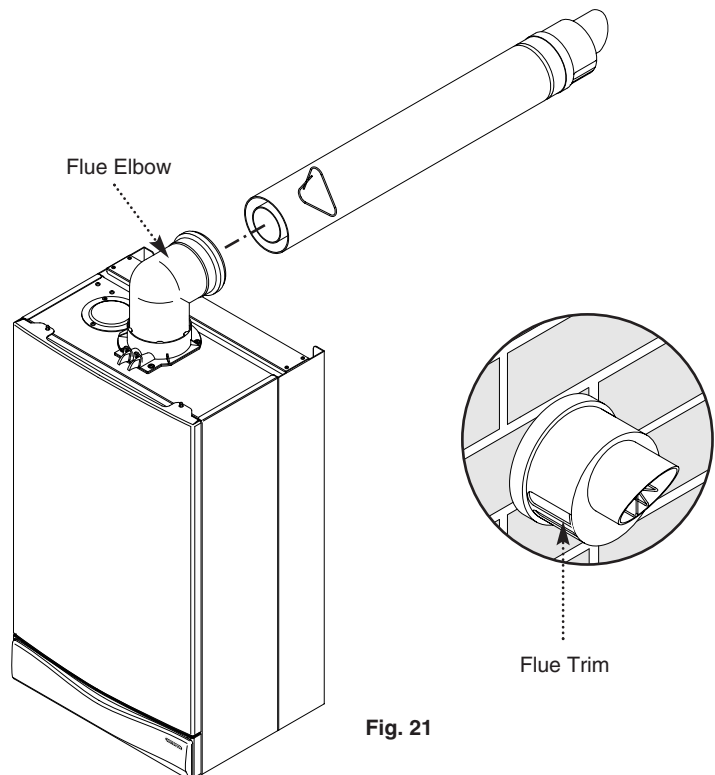

Fig. 21
9. Draw the flue back through the wall and engage it in the elbow. It may be necessary to use soap solution or similar to ease assembly of the elbow adaptor and flue (Fig. 21).